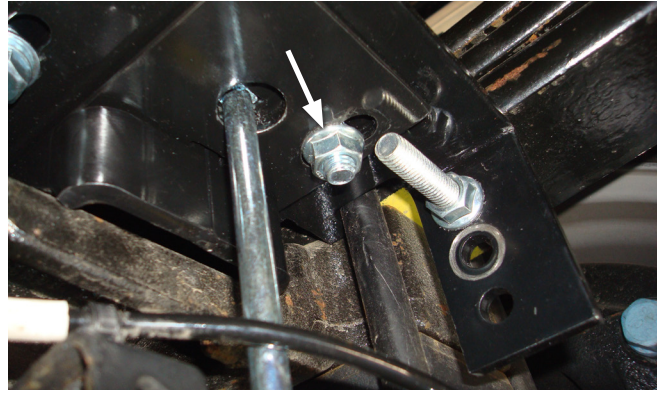

Fig. 36
10. Torque the nut (U) to 32 lb.-ft. (43Nm) on both sides (Fig. 36).